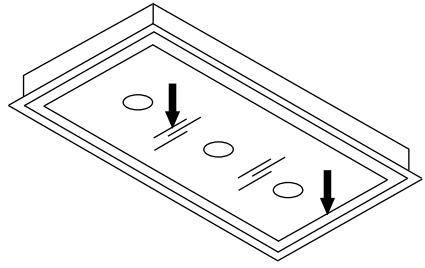

Fig 8
5. Pull down at each side of glass cover to remove (Fig 8).